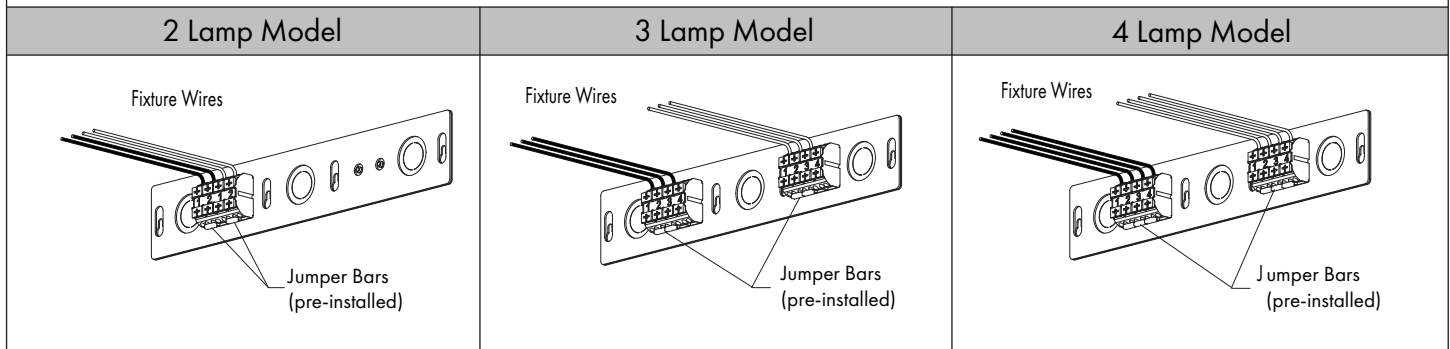

FIG 26.1 Jumper Bars
STEP 1 Remove jumper bars from terminal blocks as needed for individual lamp control - **FIG 26.1**.